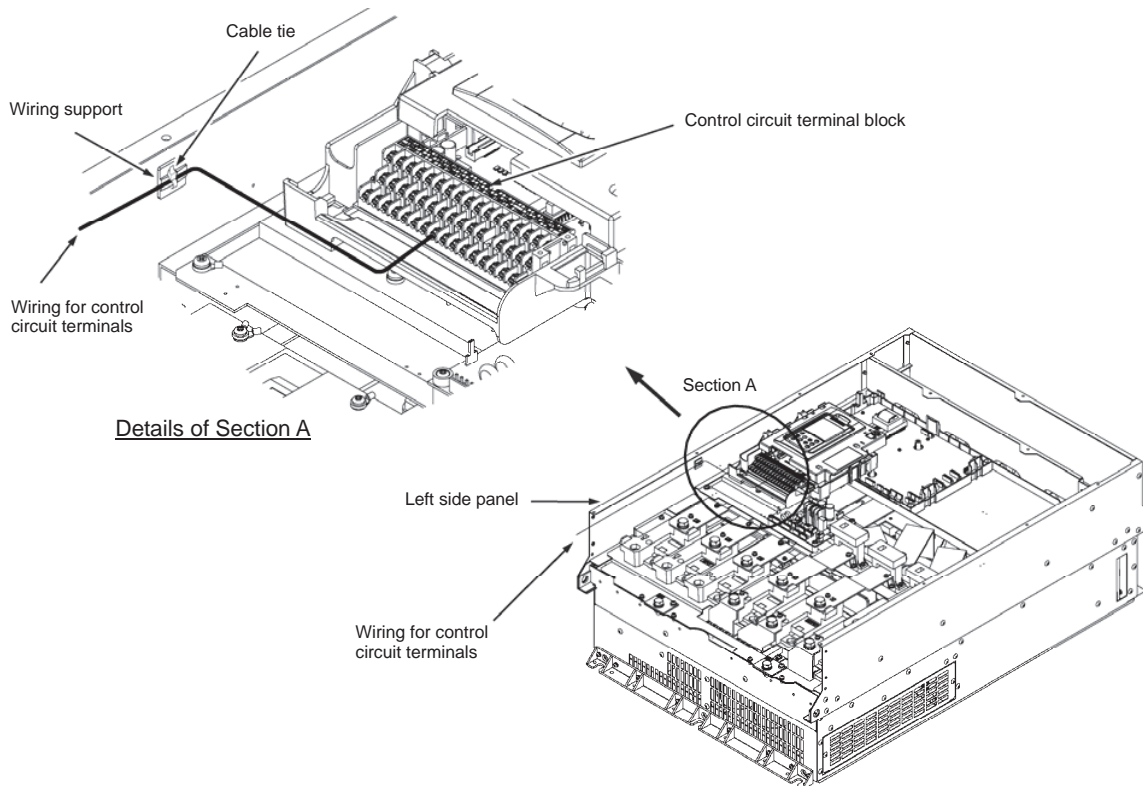

Figure 2.2-13 Wiring Route and Fixing Position for the Control Circuit Wires
- (1) As shown in Figure 2.2-13, route the control circuit wires along the left side panel to the outside of the inverter.
- (2) Secure those wires to the wiring support, using a cable tie (e.g., Insulok) with 3.8 mm or less in width and 1.5 mm or less in thickness.